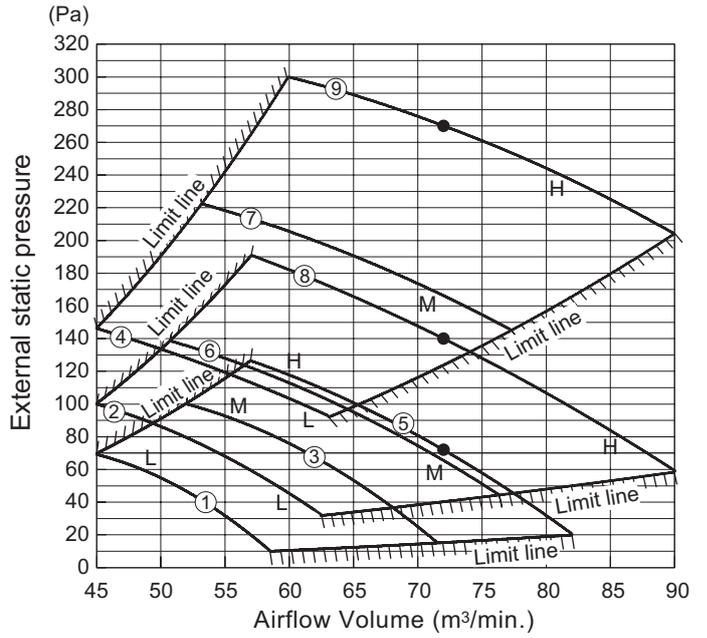

Fig. 1-32
(1) Refer to Table 1-8 and Fig. 1-32 for details on the relationship between the value of item code “5d” and the external static pressure.
(2) When set in group control (connecting multiple indoor units with one timer remote controller), set each indoor unit to item code “5d”.
**Refer to Fig. 1-32 for the external static pressure setting range.**
Refer to Table 1-8 and Fig. 1-32 and select a value **"0006"**, **"0003"** or **"0001"**.